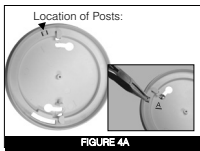

FIGURE 4A
- To make the smoke alarm tamper-resistant, a tamper resist feature has been provided. To activate this feature you must break out the tamper-resist posts on the mounting plate (Figure 4A). Use a small screwdriver.